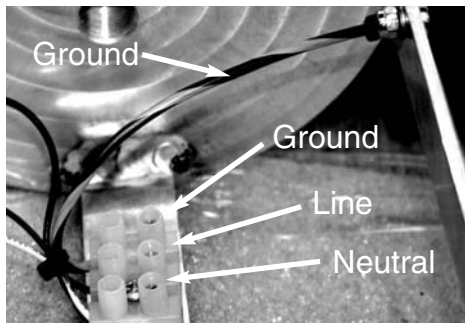

FIGURE 9 Securing the Ground, Line and Neutral
3. Connect both the line, neutral and ground wires of the power cord to the terminal block. Make sure the line and neutral wires are connected to the correct positions on the terminal block that are across from the appropriate colored wire. See *FIGURE 9*.